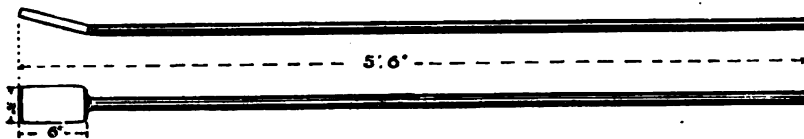

FIG. 5.—TAMPING BAR. Weight 13 lbs,
**Tamping Bars.** (Fig. 5). The end is made of iron 6  $\times$  3  $\times$  3-4 in. welded into a handle of 7-8 in. round iron, giving a length over all of 5 ft. 6 in. with weight about 13 lbs. The end is welded on at such an angle as will be convenient for a man to strike well under a tie. Twenty can be made in a day. They should be sent to shop for re-dressing before getting much rounded.